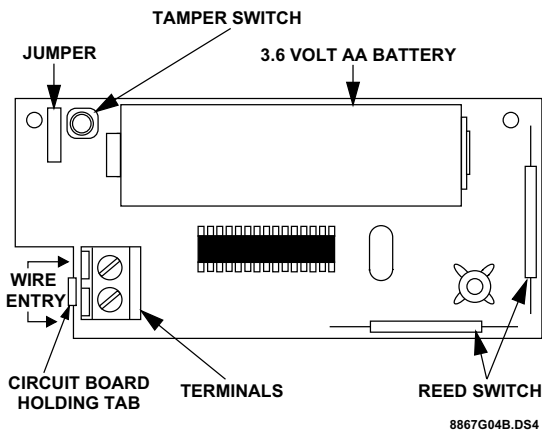

Figure 2. Long-Life Door/Window Sensor (60-641) Circuit Board; Door/Window Sensor (60-362) Circuit Board Similar
- 4) Remove the unused reed switch, clipping the leads as close to the board as possible (see Figure 2.)